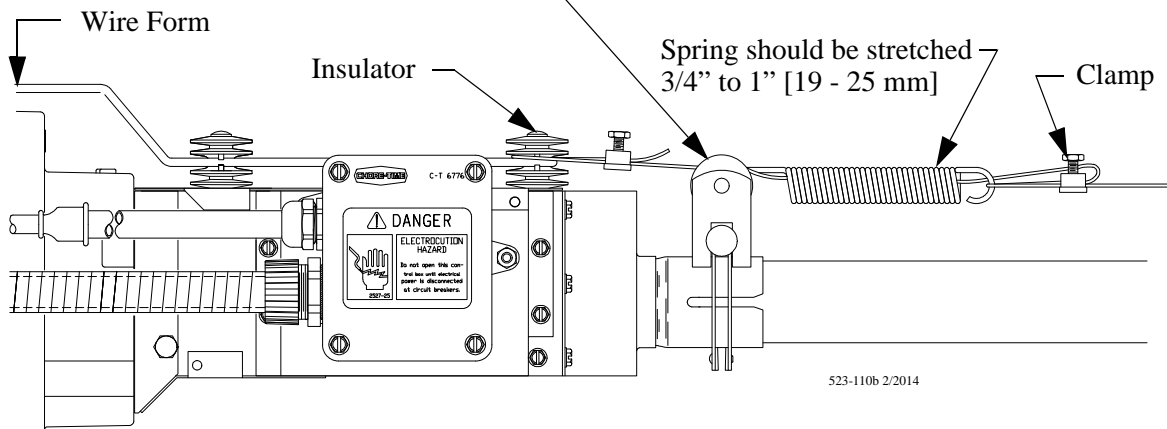

Figure 57. Cable hook up at Power Unit.
9. At the control unit, after clamping the cable to the spring, cut the cable about 8" to 10" (200 to 250 mm) longer than necessary. Feed the end of the cable through the center of the spring, around the first insulator on the control unit, and clamp the cable using the cable clamp supplied with the control unit. See **Figure 57**.
10. Install the wire form on the control unit insulators. Be sure the guard snaps into the retainers molded into the insulators. See **Figure 57**. At the control unit, after clamping the cable to the spring, cut the cable about 8" to 10" (200 to 250 mm) longer than necessary. Feed the end of the cable through the center of the spring, around the first insulator on the control unit, and clamp the cable using the cable clamp supplied with the control unit. See **Figure 57**.